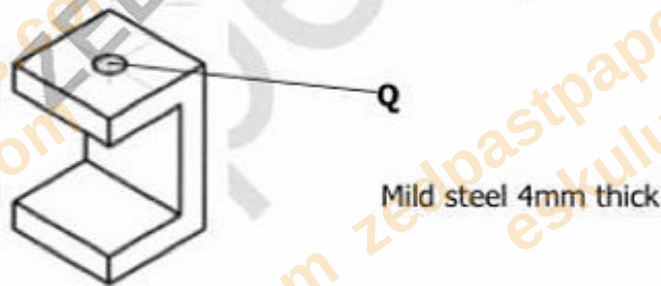

Figure 7
- 22 **Figure 7** shows a project to be made in the design and technology workshop. How would you bend the bracket to its shape?
- 23 With reference to **Figure 7** in Q22, identify the tool to be used for cutting the internal threads in the hole labelled **Q**.